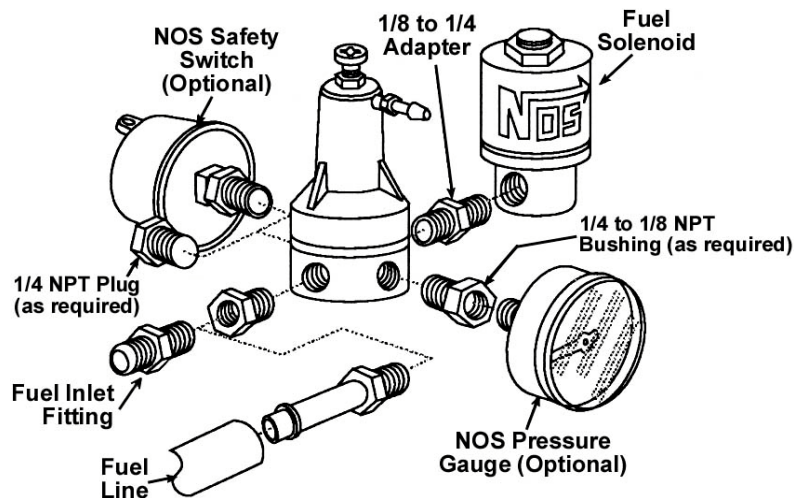
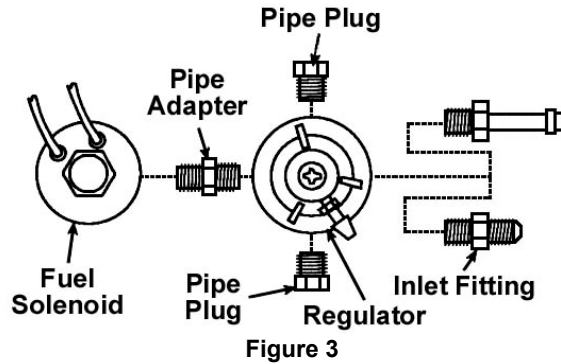

Figure 1
Figure 3
Two fittings are required to adapt the regulator in the NOS system. A 1/4 to 1/8 reducer bushing is used for inserting the fuel **IN**let line fitting and a 1/8 to 1/4 NPT adapter is used to mount the NOS fuel solenoid. The type and quantity of additional fittings and/or plugs is dependent on what (if any) optional NOS accessories are to be used in conjunction with the regulator (Figure 1).
3. One of the three remaining **OUT**let ports must be used to remount the NOS fuel solenoid (Figure 3). Insert a 1/8 to 1/4 pipe adapter fitting into the chosen port and tighten. Position the **IN**let or **P** port of the solenoid on the adapter and tighten.
4. If the optional NOS fuel pressure safety switch or fuel pressure gauge accessories are not going to be used, insert a 1/4 male pipe plug (with sealer) into each of the remaining outlet ports (2) and securely tighten.
5. If either or both of the optional NOS accessories will be utilized, insert a reducer bushing into the desired port(s). Install and tighten the gauge and/or safety switch in place (Figure 1).
- To complete the regulator installation, (re)connect both the fuel inlet line (from the pressure source) to the regulator's **IN**let port fitting and the fuel feed line (if removed) from the **OUT**let or **A** port (Figure 1).